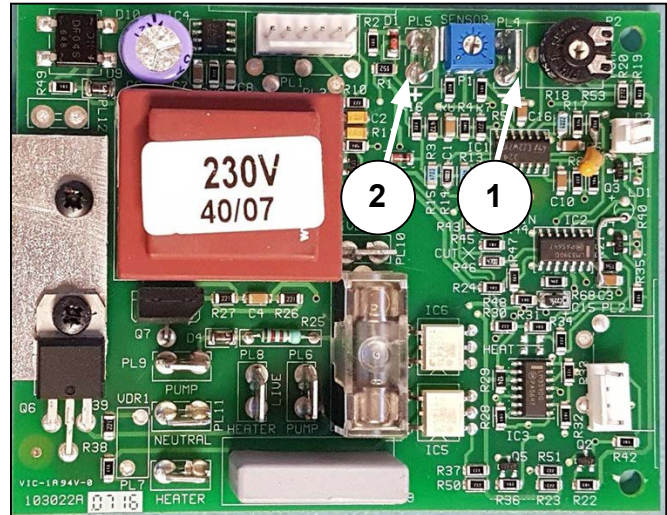

Figure 12: Mains PCB
5. Disconnect the thermocouple wires from their spade terminals, PL4 (1) and PL5 (2). See figure 12.